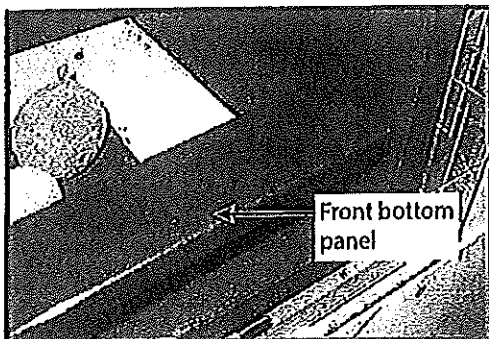
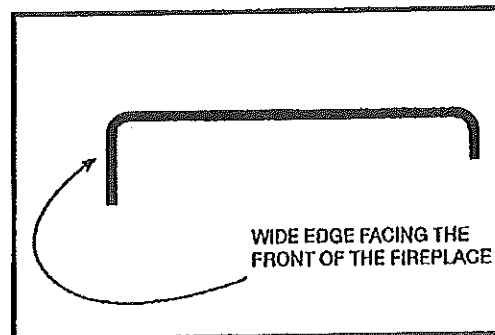

Figure 48: Front panel.
Figure 49: Front panel - side view
4. Place the front bottom panel (Figure 48) on the front lip of the firebox, wide flange facing the front (Figure 49). (Proceed to step #6 if you are installing a TCWS.54NG03.C2 Black Diamond burner with this unit.)